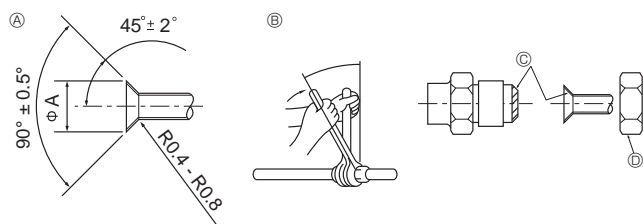

Fig. 4-1
4.2. Connecting pipes (Fig. 4-1)
② Flare nut tightening torque